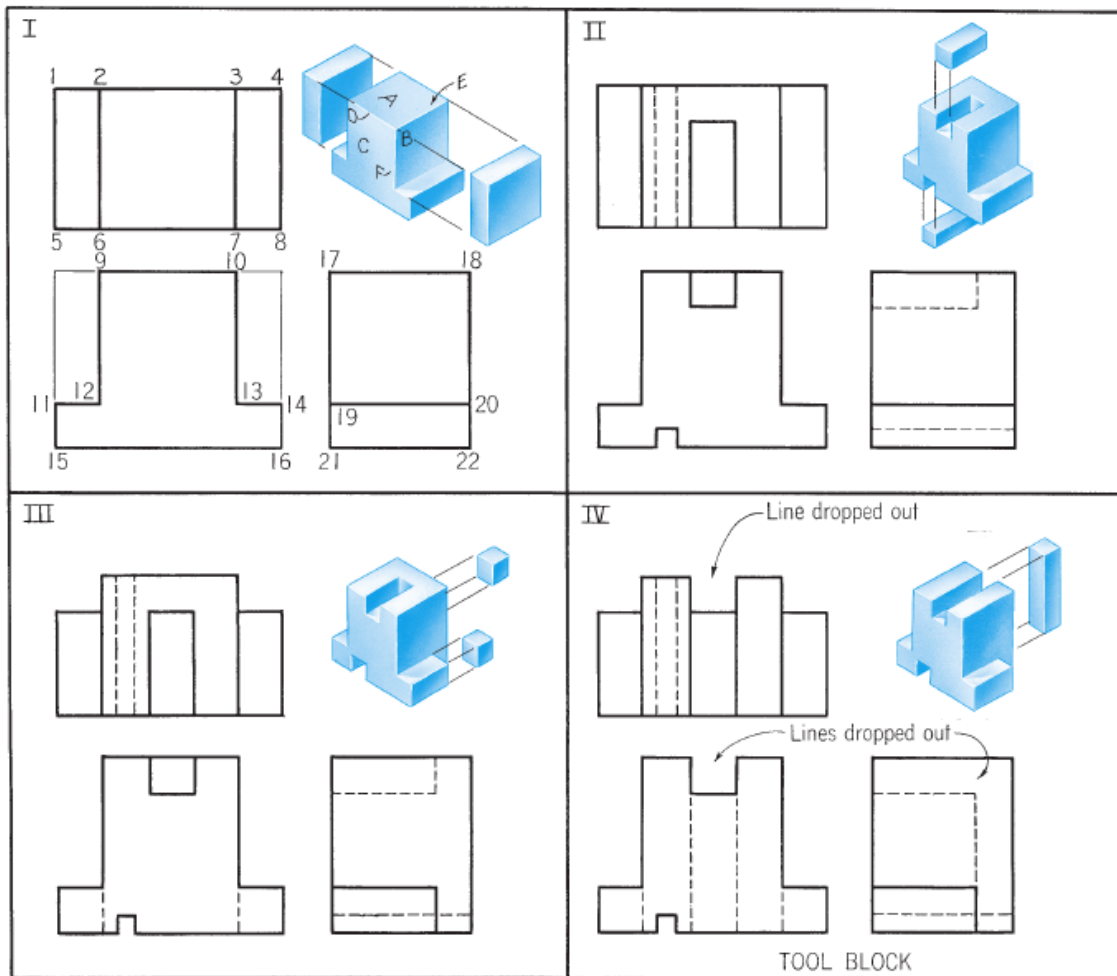

FIGURE 6.24 Machining a Tool Block—Normal Surfaces and Edges.
- Look at Figure 6.24, I above. Edge D, is perpendicular to the profile plane of projection and appears as point # _____ in the side view. It is parallel to the _____ and _____ of projection and is shown true length at #'s _____ in the front view and #'s _____ in the top view.